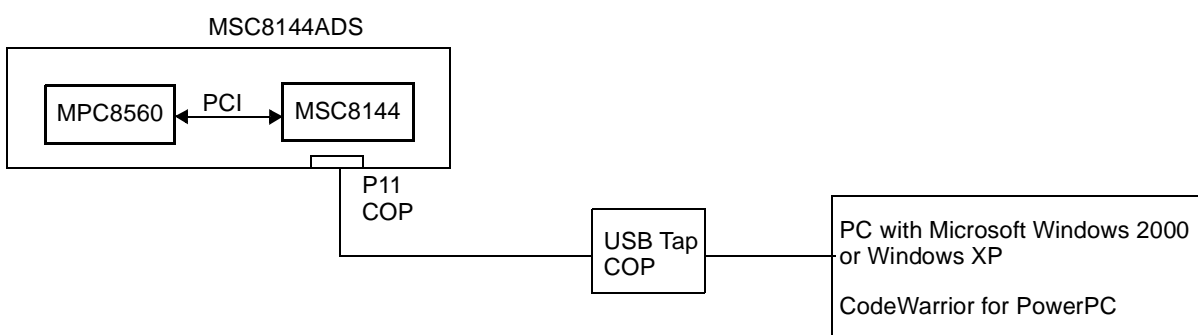

Figure 2. Hardware Setup
- USB Tap for COP. Connects the MPC8560 on the MSC8144ADS to the CodeWarrior for PowerPC tools through JTAG. Figure 2 shows the hardware setup.